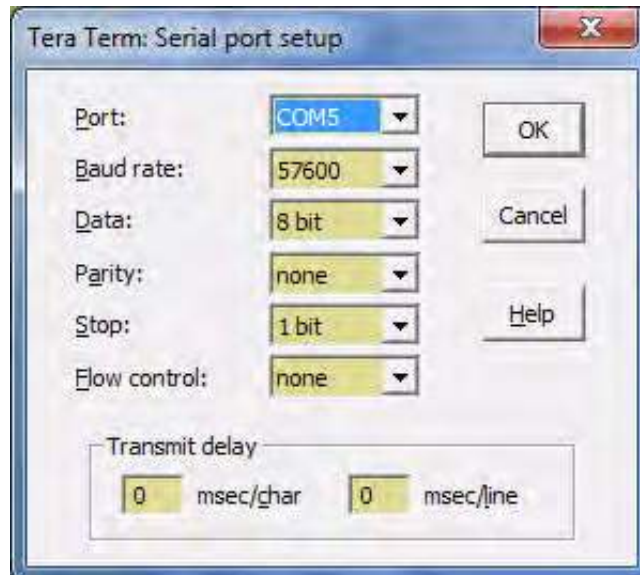

Figure 7. Configuring the Serial Communication Settings
5. In your terminal emulation application, select the COM port assigned to the USB-to-serial cable, and modify the settings to reflect an 57600, 8, N, 1, N configuration, as shown in the Tera Term example in Figure 7.